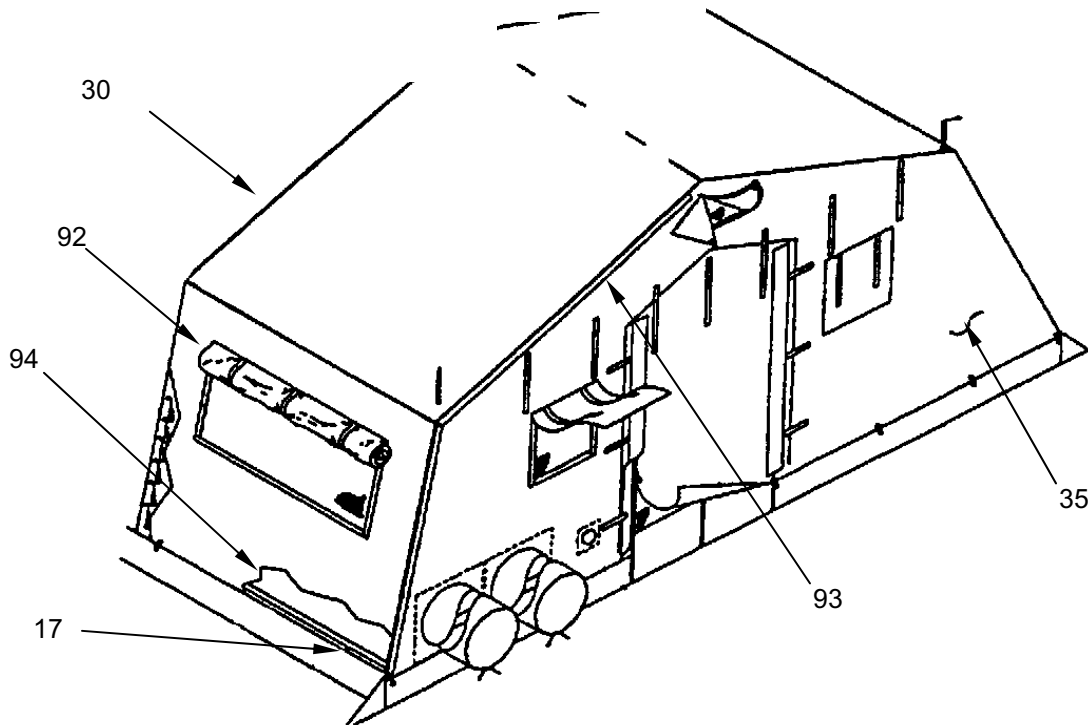

Figure 38. Complete Becket Lacing and Bootwall Attachment.
1. Roll up window flaps (**Figure 38, Item 92**) and secure.
2. Have two soldiers on the ground complete lacing the window section (**Figure 38, Item 30**) and the end sections (**Figure 38, Item 35**) together. Secure weather seal flap (**Figure 38, Item 93**).
3. Pull sod cloth (**Figure 38, Item 94**) under base purlins (**Figure 38, Item 17**) and end wall section (**Figure 38, Item 35**).